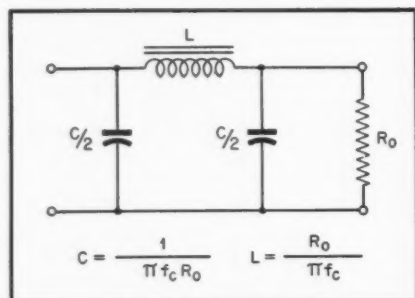

Fig. 2. Low-pass filter prototype, or constant- k section. R_0 is the terminating resistance; f_c is cut-off frequency.
Equations (8) and (9) are seen to be very similar to the equations for the low-pass filter prototype shown in Fig. 2. The equations indicate, however, that the values given by the reactance chart for L and C will be equal to one half of the value calculated from the prototype equations if R_0 is substituted for R_L and R_C and f_c is substituted for f .
For example, if it is desired to design a 10,000-ohm filter section with a cut-off frequency f_c of 1,000 cps, substituting these values in the equations of Fig. 2 give